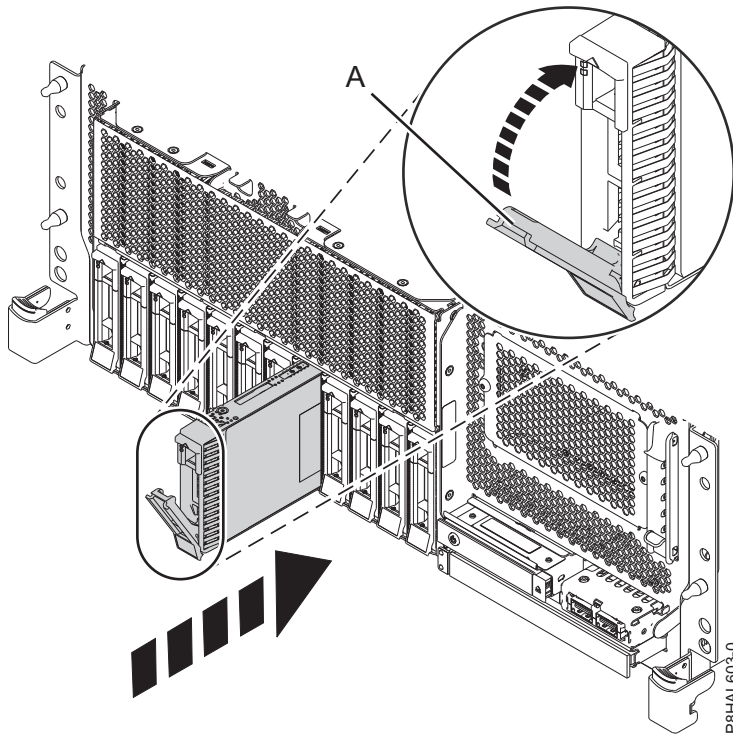

Figure 63. Replacing a disk drive in a rack-mounted base function system
3. Unlock the drive bay handle (A) by pressing it and pulling it out toward you. If the handle is not all the way out, the drive does not slide into the system. See Figure 63, Figure 64 on page 69, Figure 65 on page 70, and Figure 66 on page 71.
5. Slide the drive all the way into the system, and push the drive bay handle (A) in until it locks, as shown in Figure 63, Figure 64 on page 69, Figure 65 on page 70, and Figure 66 on page 71.